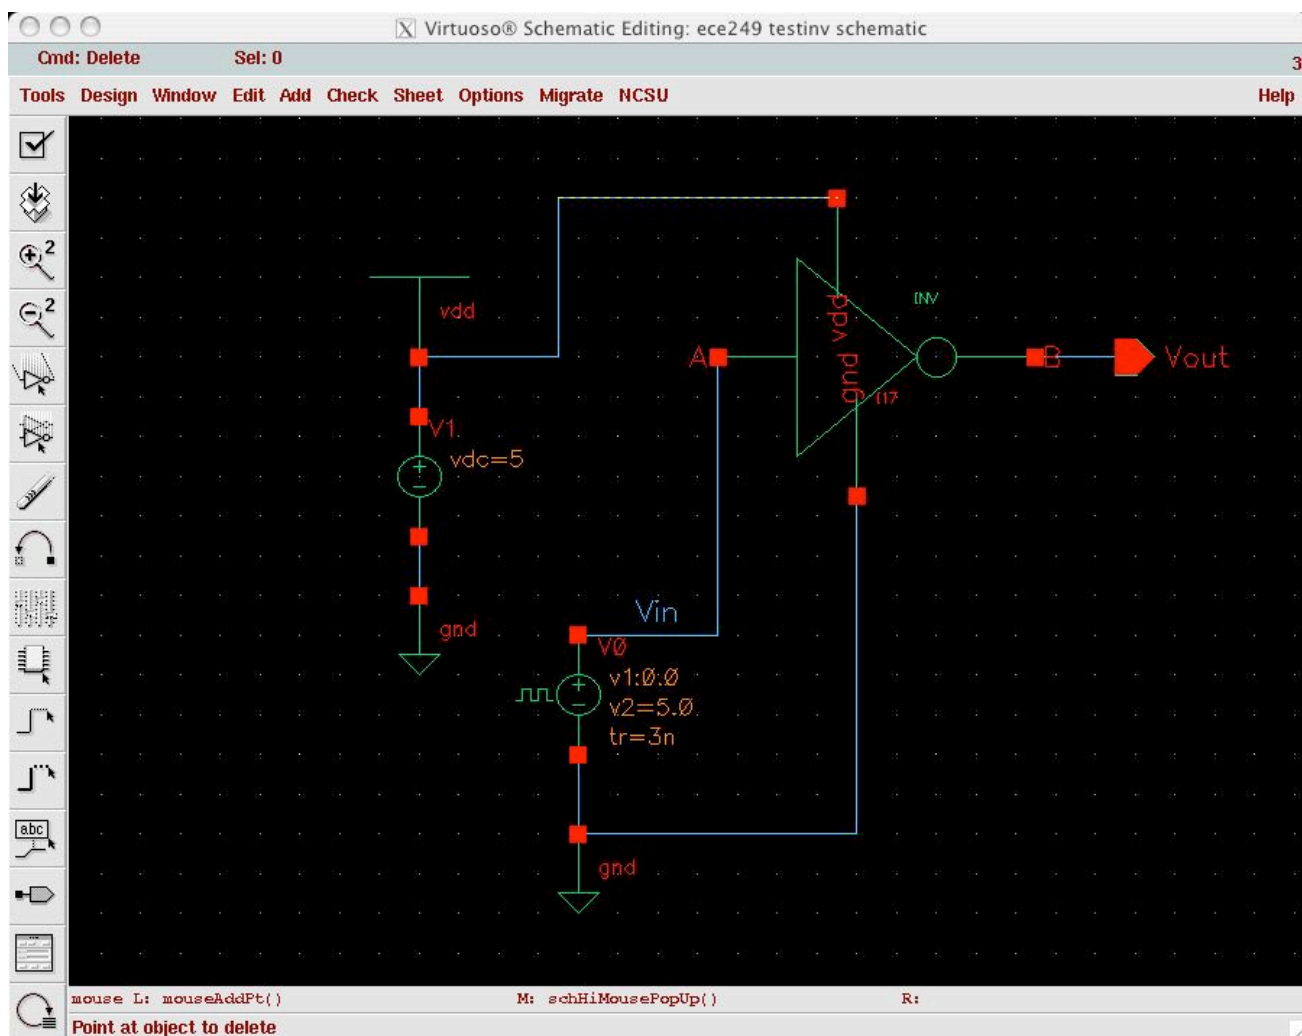

Fig. 16. The completed testinv schematic.
**Step 6:** In *Virtuoso Schematic Editing* window, go to *Add... → Wire*, connecting all the components as shown in Fig. 16. The vdd and gnd symbols are in the analogLib library.